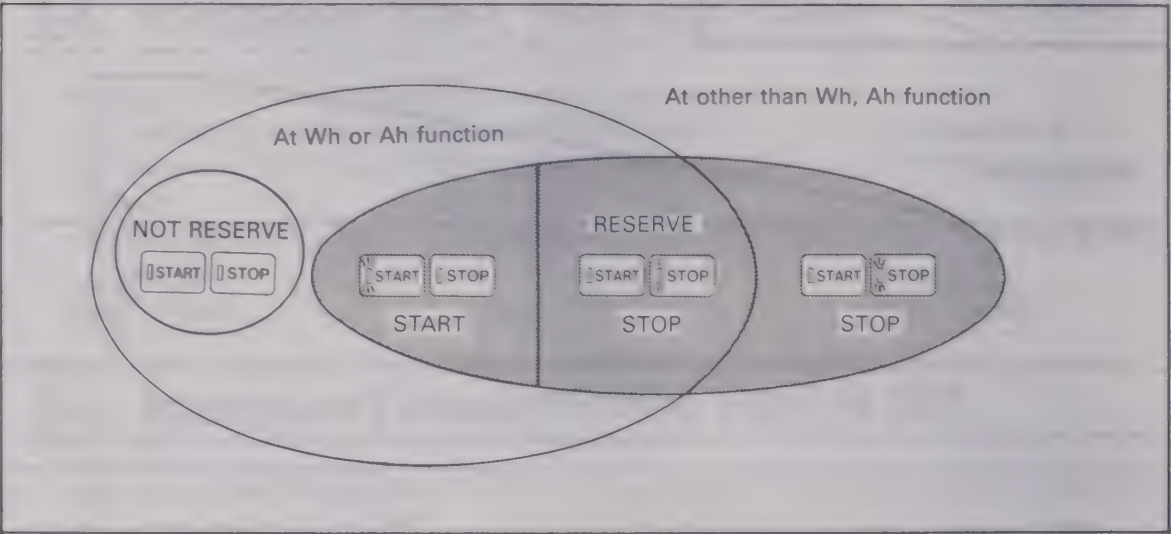
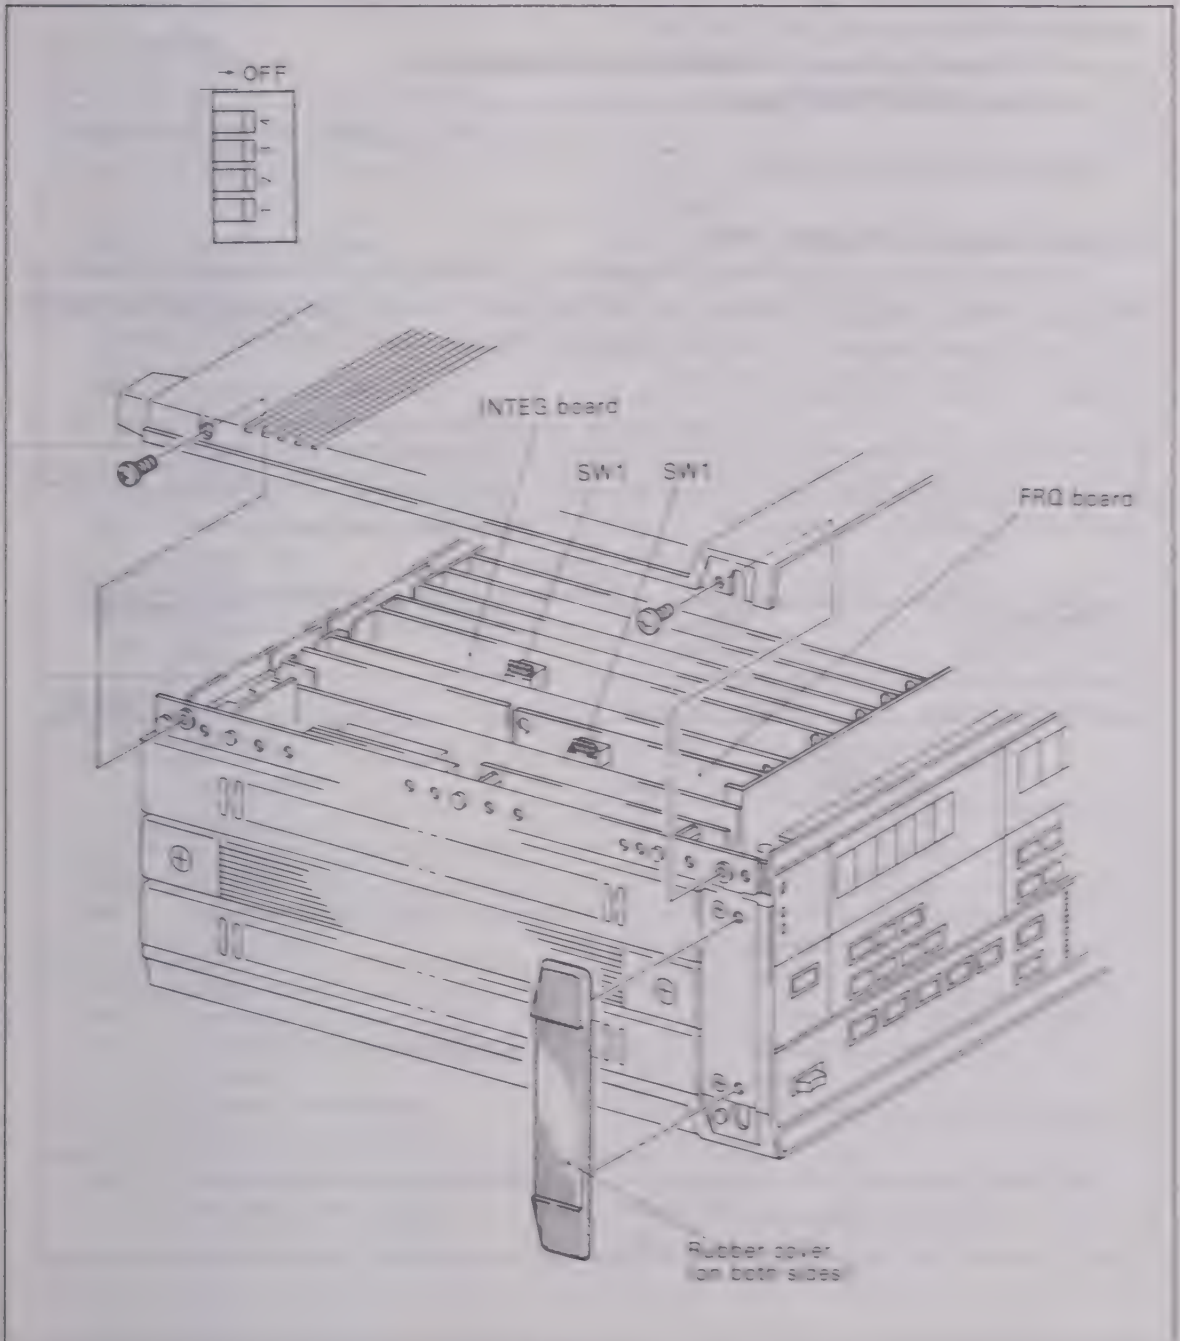

Figure 2-6.
Figure 2-13.
- (1) Disengage the power cord from 2533E. Remove the rubber cover from the side front of 2533E (see Figure 2-13.). When a fixture is attached, remove it by a screwdriver referring to Figure 2-6 in the instruction manual of the mainframe.
- (2) Using a screwdriver, loosen 4 screws from the upper case.
- (3) Remove the upper case.